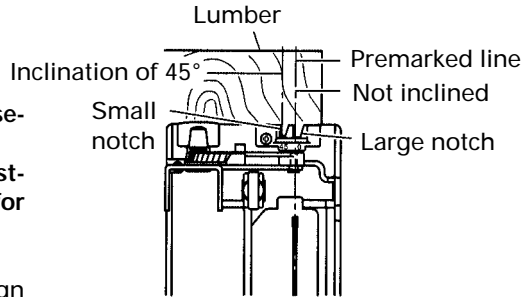
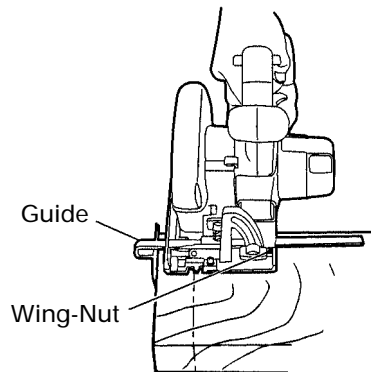
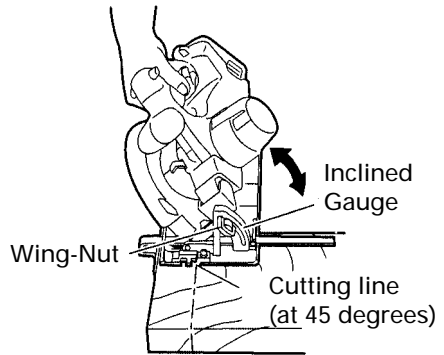

Fig. 14 (Top View)
Fig. 15 Not inclined
Fig. 16
(1) Place the base on the material, then align the premarked line and the saw blade with the guide piece front scale section at the front of the base. (Fig. 14)
(2) When the base is not inclined, use the large notch as the guide piece. (Fig. 14, Fig. 15)
If the base is inclined (45 degrees), use the small notch as the guide piece. (Fig. 14, Fig. 16)